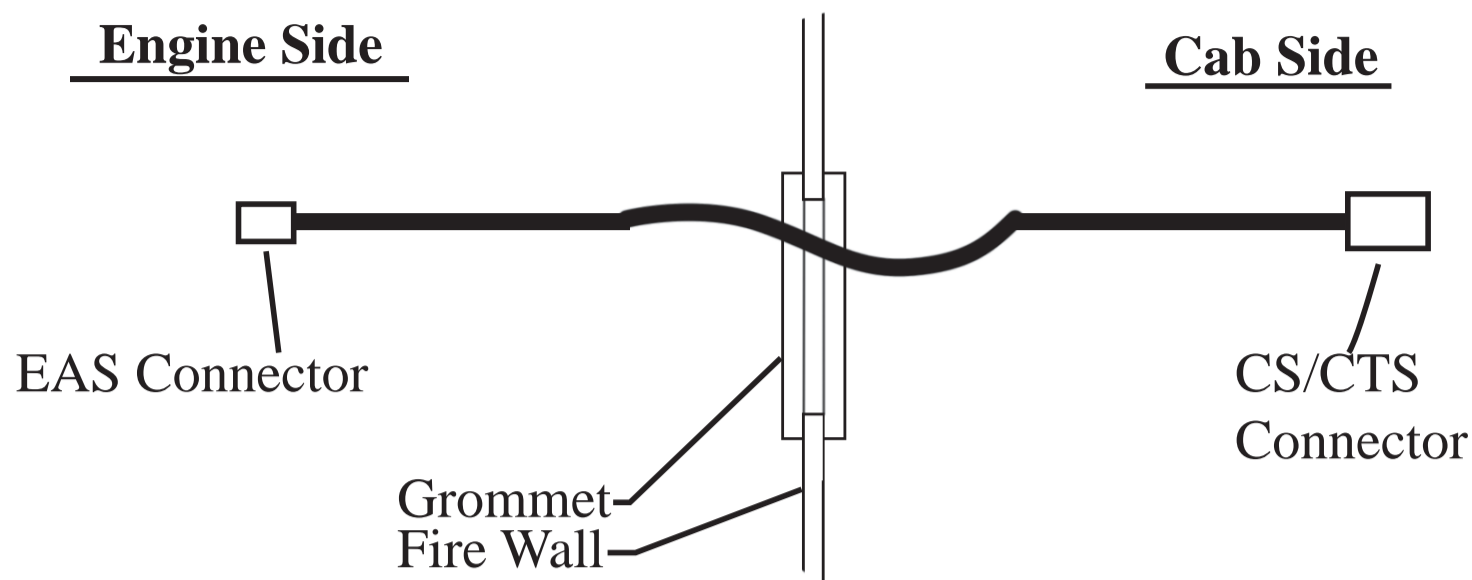

Figure 3 - Fire Wall Routing
3. Route the CS/CTS Connector and cable through the fire wall grommet. The JAB and Juice Module will remain under the hood. (Figure 3)